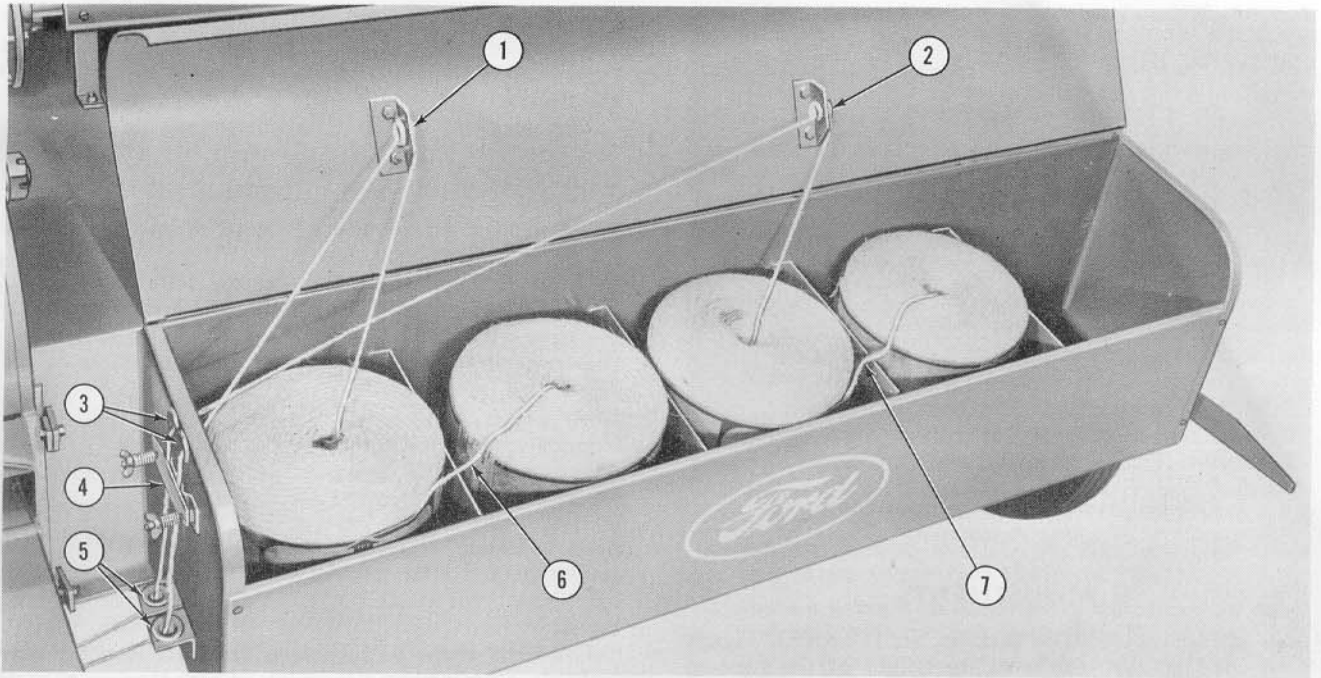
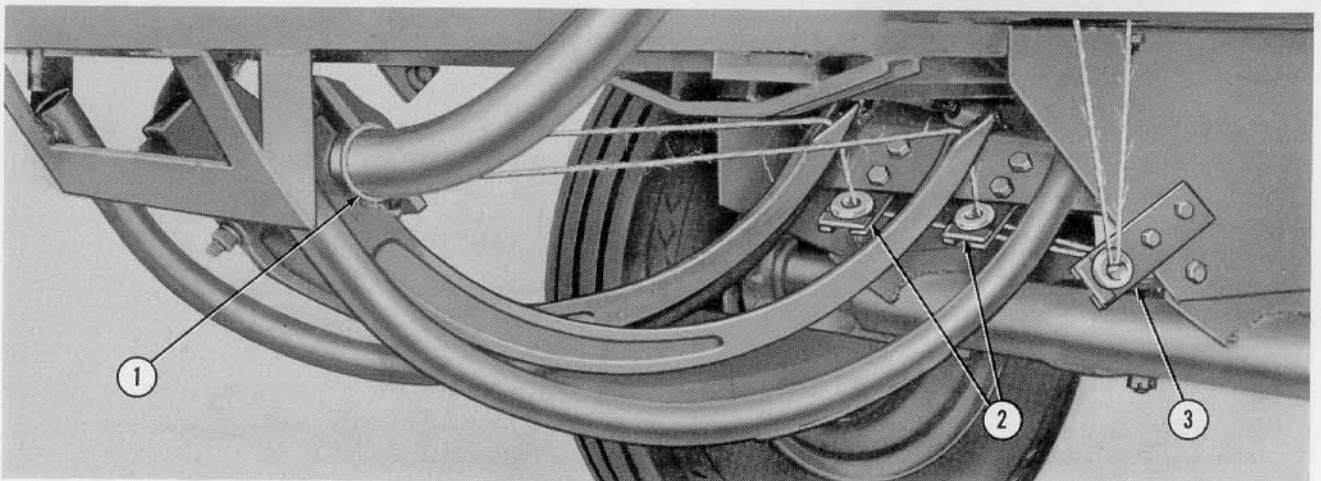

Figure 5
Figure 6
1. Place four balls of twine, proper end up, in the twine can. Tie the inside ends of the reserve balls to the outside ends of the feed balls as shown at (6) and (7), Figure 5.
2. Thread the inside ends of the feed balls through the guides (1) and (2), Figure 5, on the twine can cover, through the holes (3) in the left side of the can and down through the twine tension assembly (4) and guides (5). Next, run the twine through the axle support bracket guide (3), Figure 6, and then through the guides (2), and the needle eyes.
3. Tie the twine ends to the needle yoke as shown at (1), Figure 6.
6. Stop the baler and untie the twine from the needle yoke (1), Figure 6. Pull the loose end of the twine from the knotter assembly and discard.